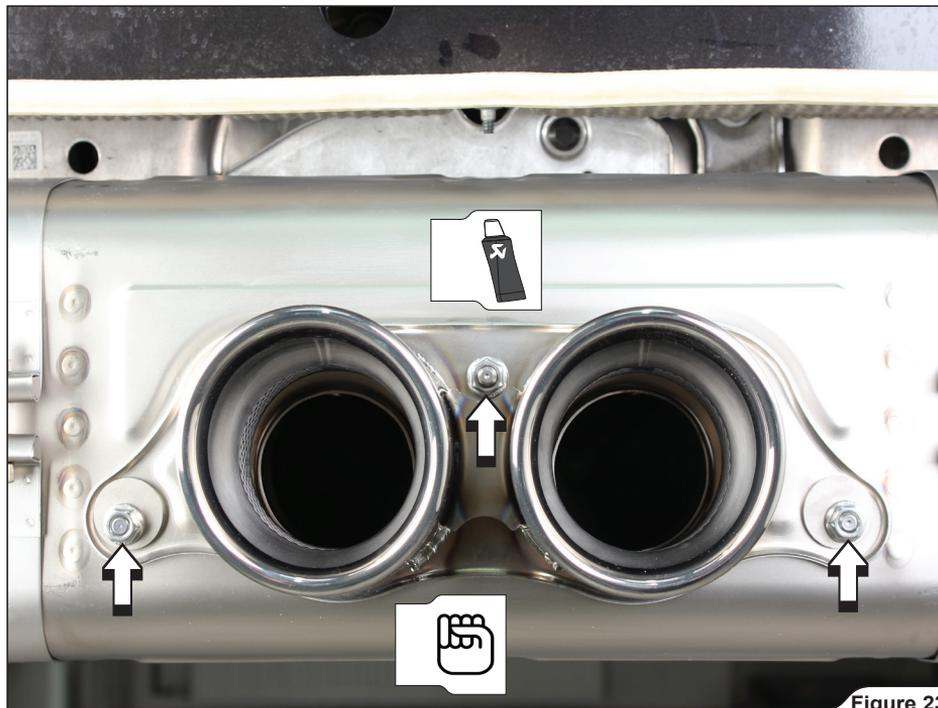

Figure 23
8. Attach Akrapovič tail-pipe onto the muffler's outlet. Correctly assemble and hand tighten nuts and centering washers from Akrapovič installation kit (**Figure 23**).